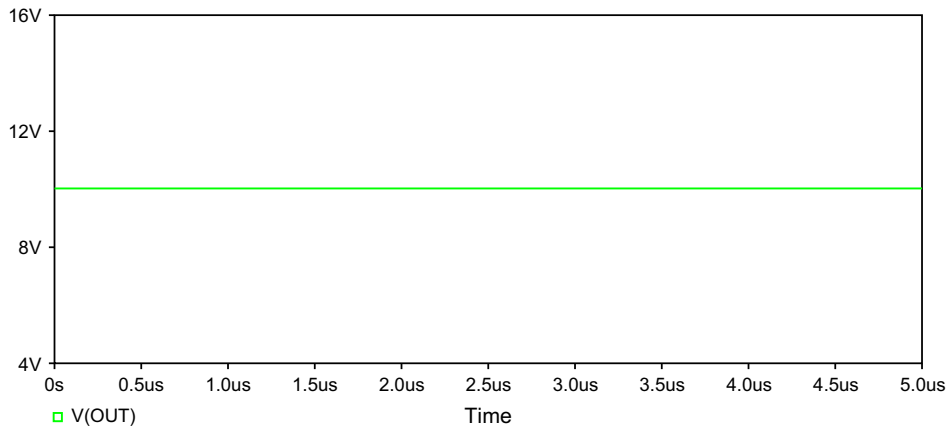

FIGURE 12.4
5. What you will see is a flat line for the voltage (Figure 12.4). This is because a DC bias point analysis has been run prior to the transient analysis such that the capacitor has reached a steady-state voltage of 10 V. So at time $t = 0$ s, the voltage across the capacitor is 10 V, as shown.